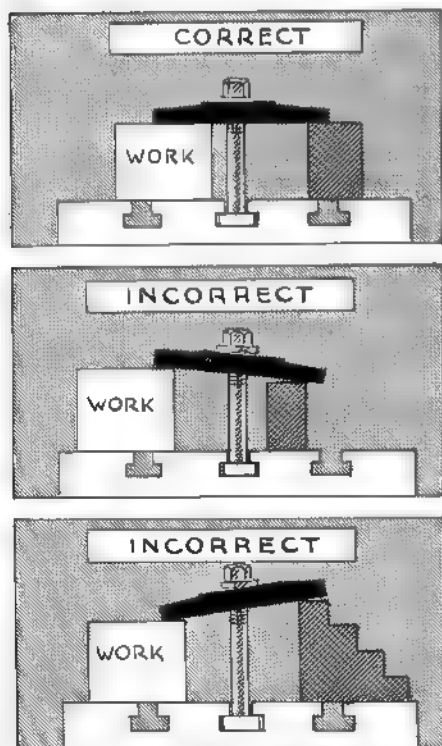

FIG. 166
4. Place the clamp over the bolt. Support one end of the clamp on the work and the other on the block. Check to see that the clamp is level and that the bolt is placed near the clamped surface. See Fig. 166 for the correct method of clamping.
NOTE: Because of the location of the table slots and the size and shape of the work, it is not always possible to place the bolt in a position of maximum gripping power. The arrangement emphasized in Figure 166 should be duplicated whenever practicable.